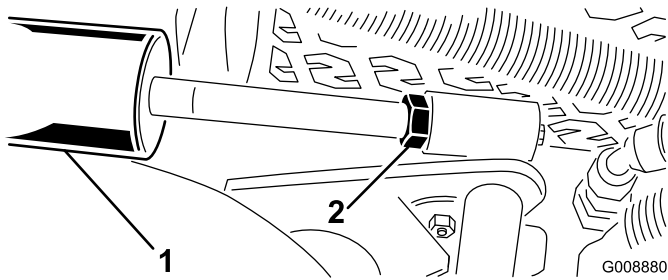

Figure 12
- A. Lower the cutting units and back off the jam nut on the cylinder (Figure 12).